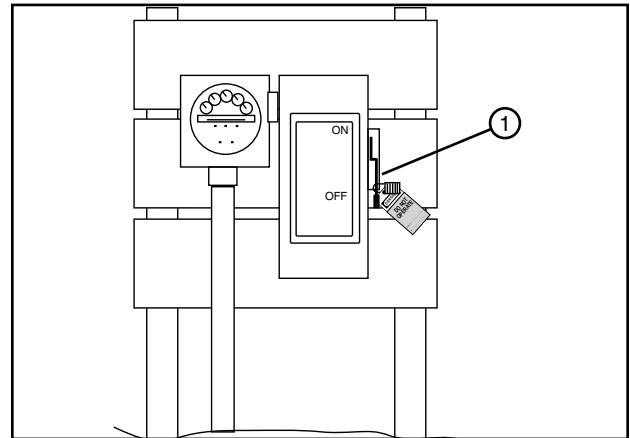

Figure 25-1 1. Public Power Service Disconnect
1. SHUT OFF and LOCK the public power service disconnect to the irrigation machine. See figure 25-1.
FILL OUT the blue (OSHA safety color code) tag and attach to the disconnect after locking. See figure 25-1.